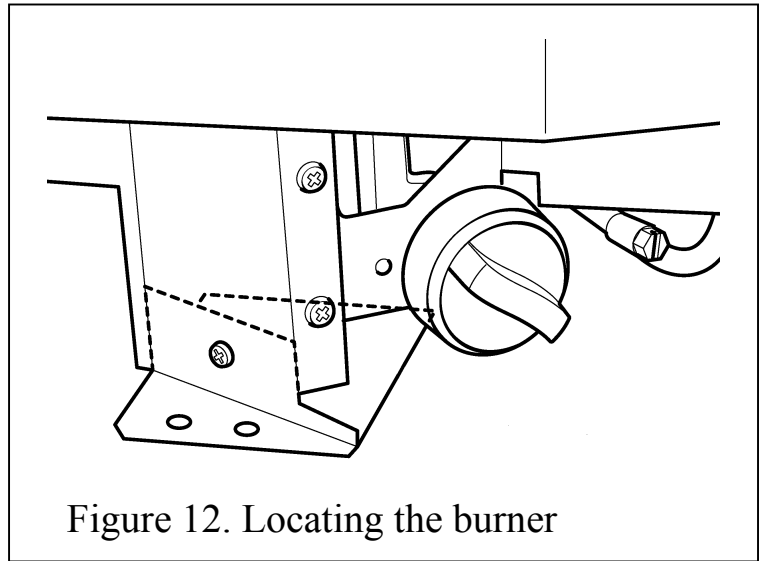

Figure 12. Locating the burner
- Place the burner assembly in position against the convector box bottom location bracket. (See figure 12).